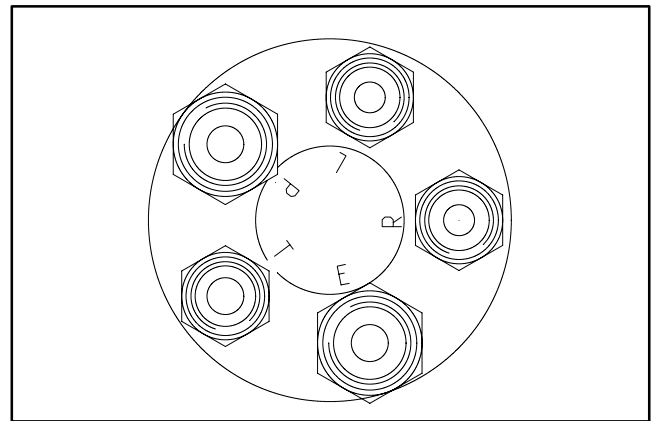

Figure 34
3. Remove six (6) phillips head screws that secure tower panel to machine. Raise tower panel to allow access to steering control valve.
5. Label all hydraulic connections for assembly purposes. Note port designations on steering control valve (Fig. 34). Clean hydraulic hose ends prior to disconnecting the hoses.
9. Loosen and remove four (4) socket head screws (item 20) and spring washers (item 19) that secure steering control valve to steering column.